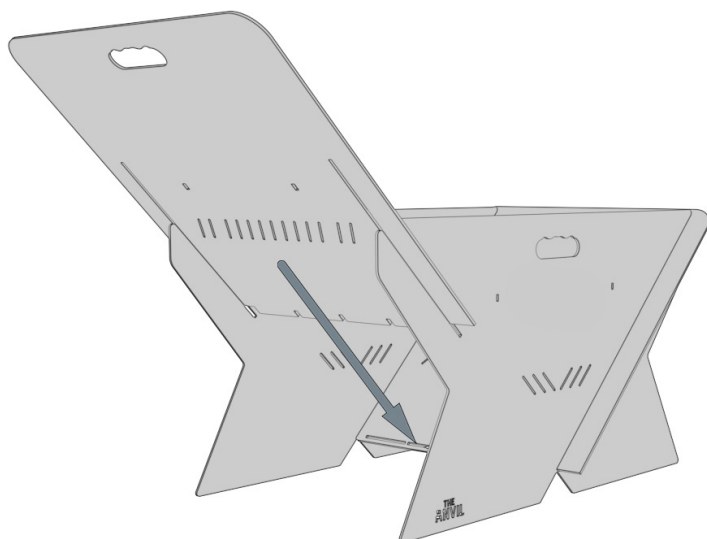

FIGURE 3
Step 3: Verify that S1 is fully seated at the bottom of FP and RP slots, as shown in Fig. 3